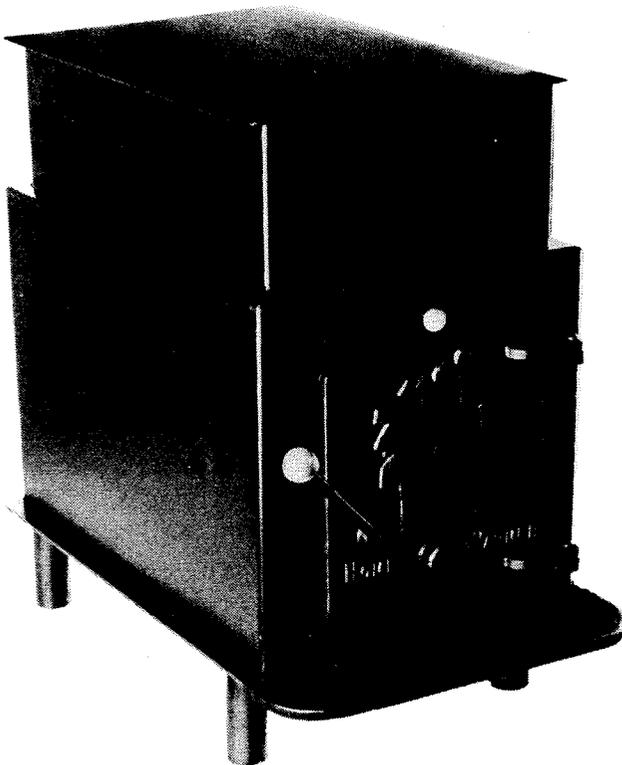

Fig. 9. Home Warmer box stove.
12. **New Hampshire Wood Stoves, Inc.** (manufacturer), P.O. Box 310, Fairgrounds Rd., Plymouth, NH 03264. The Home Warmers (Fig. 9 and Table